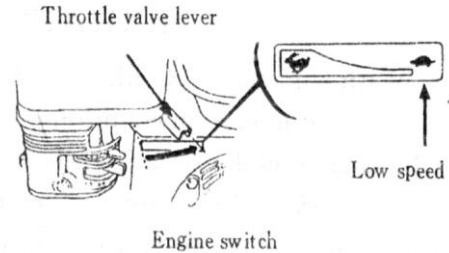

Fig. 19
3. Push right the throttle valve lever to the bottom (Fig. 19).